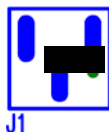

Figure 3: J1 controls EN\_PB input.
**STEP 2:** Set the EN\_PB jumper J1 to the desired position. See Figure 3. Pulling it low disables the pre-bias mode operation. Pulling this jumper high or letting it float will allow monotonic start-up with a pre-biased output. In pre-bias mode,  $V_{OUT}$  will not discharge very quickly. Therefore, you may need to apply a small load ( $\sim 10\text{mA}$ ) at shut-down to ensure that the output voltage discharges. In Figure 3 the jumper is set low to disable pre-bias mode.